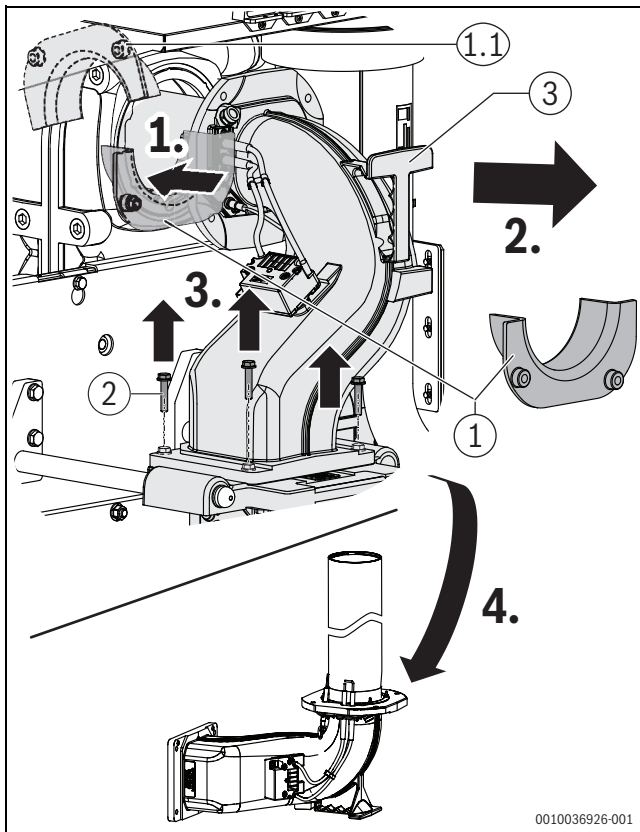

Fig. 51 Remove the mixture manifold with burner rod and put down
- Install the insertion aid. When delivered, the insertion aid is attached on the upper cover plate (→Fig. 51).
- ▶ Remove the mixture manifold with burner rod and put down stably on the footprint; protect against contamination and damage (→Fig. 51).
- ▶ Carefully remove the entire burner and put down stably on the footprint [3] of the mixture manifold (→Fig. 51) and protect against damage.